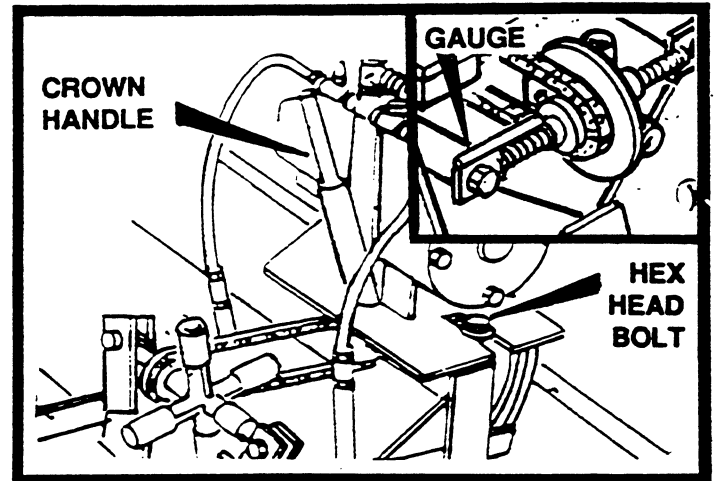

FIGURE 4
7. To obtain the crown or valley desired, refer to figure 4 and loosen hex head nut. Remove crown handle and, depending on the requirement, push down for positive crown or pull up for negative valley.
8. There is a gauge located on rear of crown adjuster to indicate when screed is level. See figure 4.